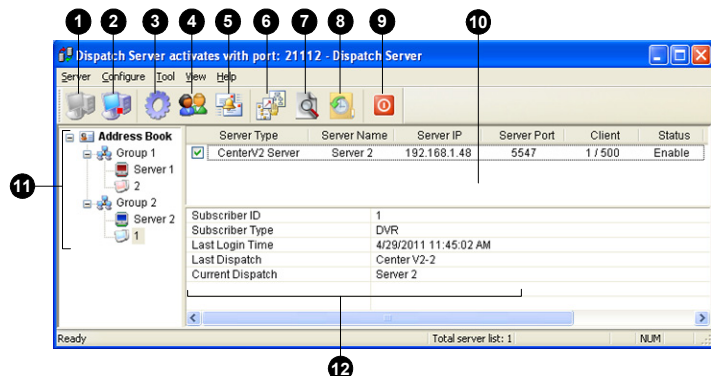

Figure 2-1
Dispatch Server can serve up to **50** Center V2 Servers and **25,000** Center V2's subscribers simultaneously. Before starting the services, create at least one server and one subscriber account on the Dispatch Server. To create an account, click the **Account** button (No. 4, Figure 2-1) to display this Address Book window.
6. Click the **Start Server** button (No. 1, Figure 2-1) on the main screen to start the service.